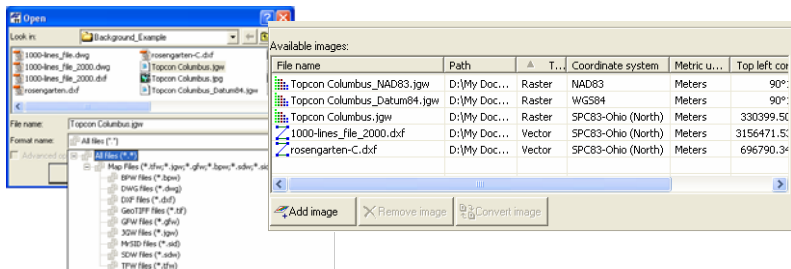

Figure 2-52. Selecting the Image File
3. Select the desired image file in the *Open* dialog box, then click **Open**. This image will be displayed in the left panel (*Available Images*) of the *Background images* dialog box (Figure 2-52). An unlimited number of images can be activated in this panel.